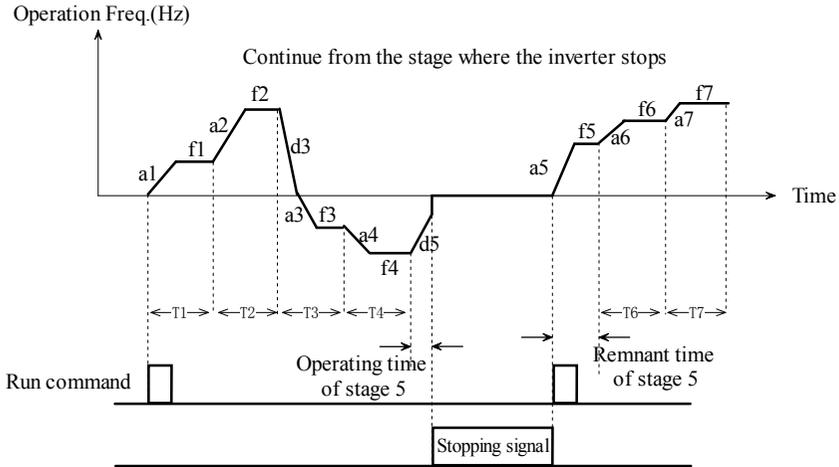

Fig. 5-5-4 PLC start mode 1
- ◆ When the inverter stops during PLC operation because of receiving stop command or fault, it will record the operating time and will continue from the step where the inverter stops, and restart at the frequency defined for this step, as shown in Fig.5-5-4.